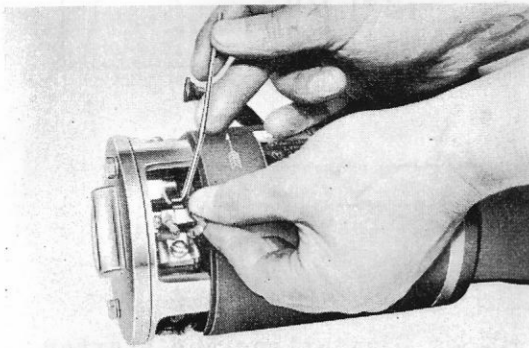

Fig. 10-99
(2) Remove the brush band and lift the brush spring and then remove the carbon brush from the brush box. (See Fig. 10-99)